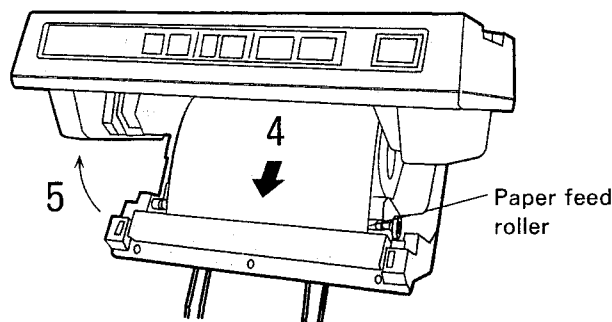

Fig.2
- 4** Pass the paper over the feed roller and under the cutter cover, then through the printer slot about 4 cm (1½ inches). (Refer to page 7.) In case paper cannot go through, just put the paper on the paper feed roller as shown Fig. 2.